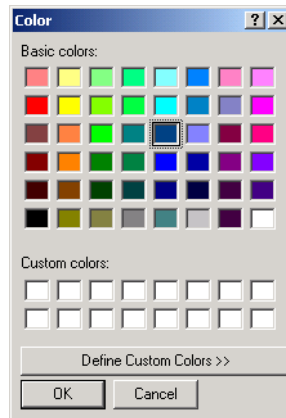

Figure 1-3. Color Choices
2. **Click the color box in front of the item you wish to customize, or click the I/O bank you wish to change.** The color pallet is displayed, as shown in Figure 1-3.